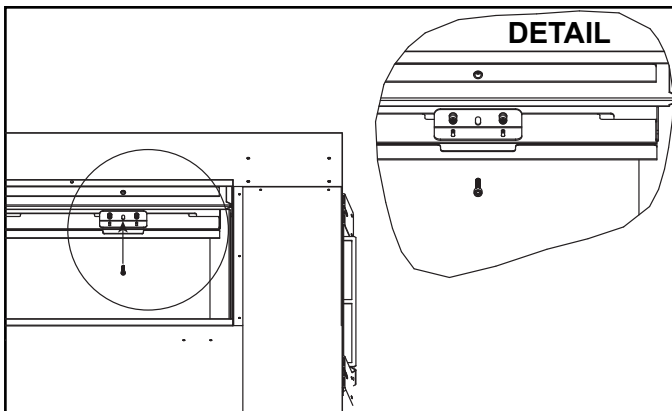

Figure 4.8 Glass Retainer Bar Assembly Installation
- To fully seat the glass retainer bar assembly, carefully thread the screws, which were removed from the rivnuts in Step 2, into the center hole of the bracket assembly on each side. See Figure 4.8. Use caution to not cross thread the screw. Once both screws are properly aligned and partially installed, the screws may be installed completely.